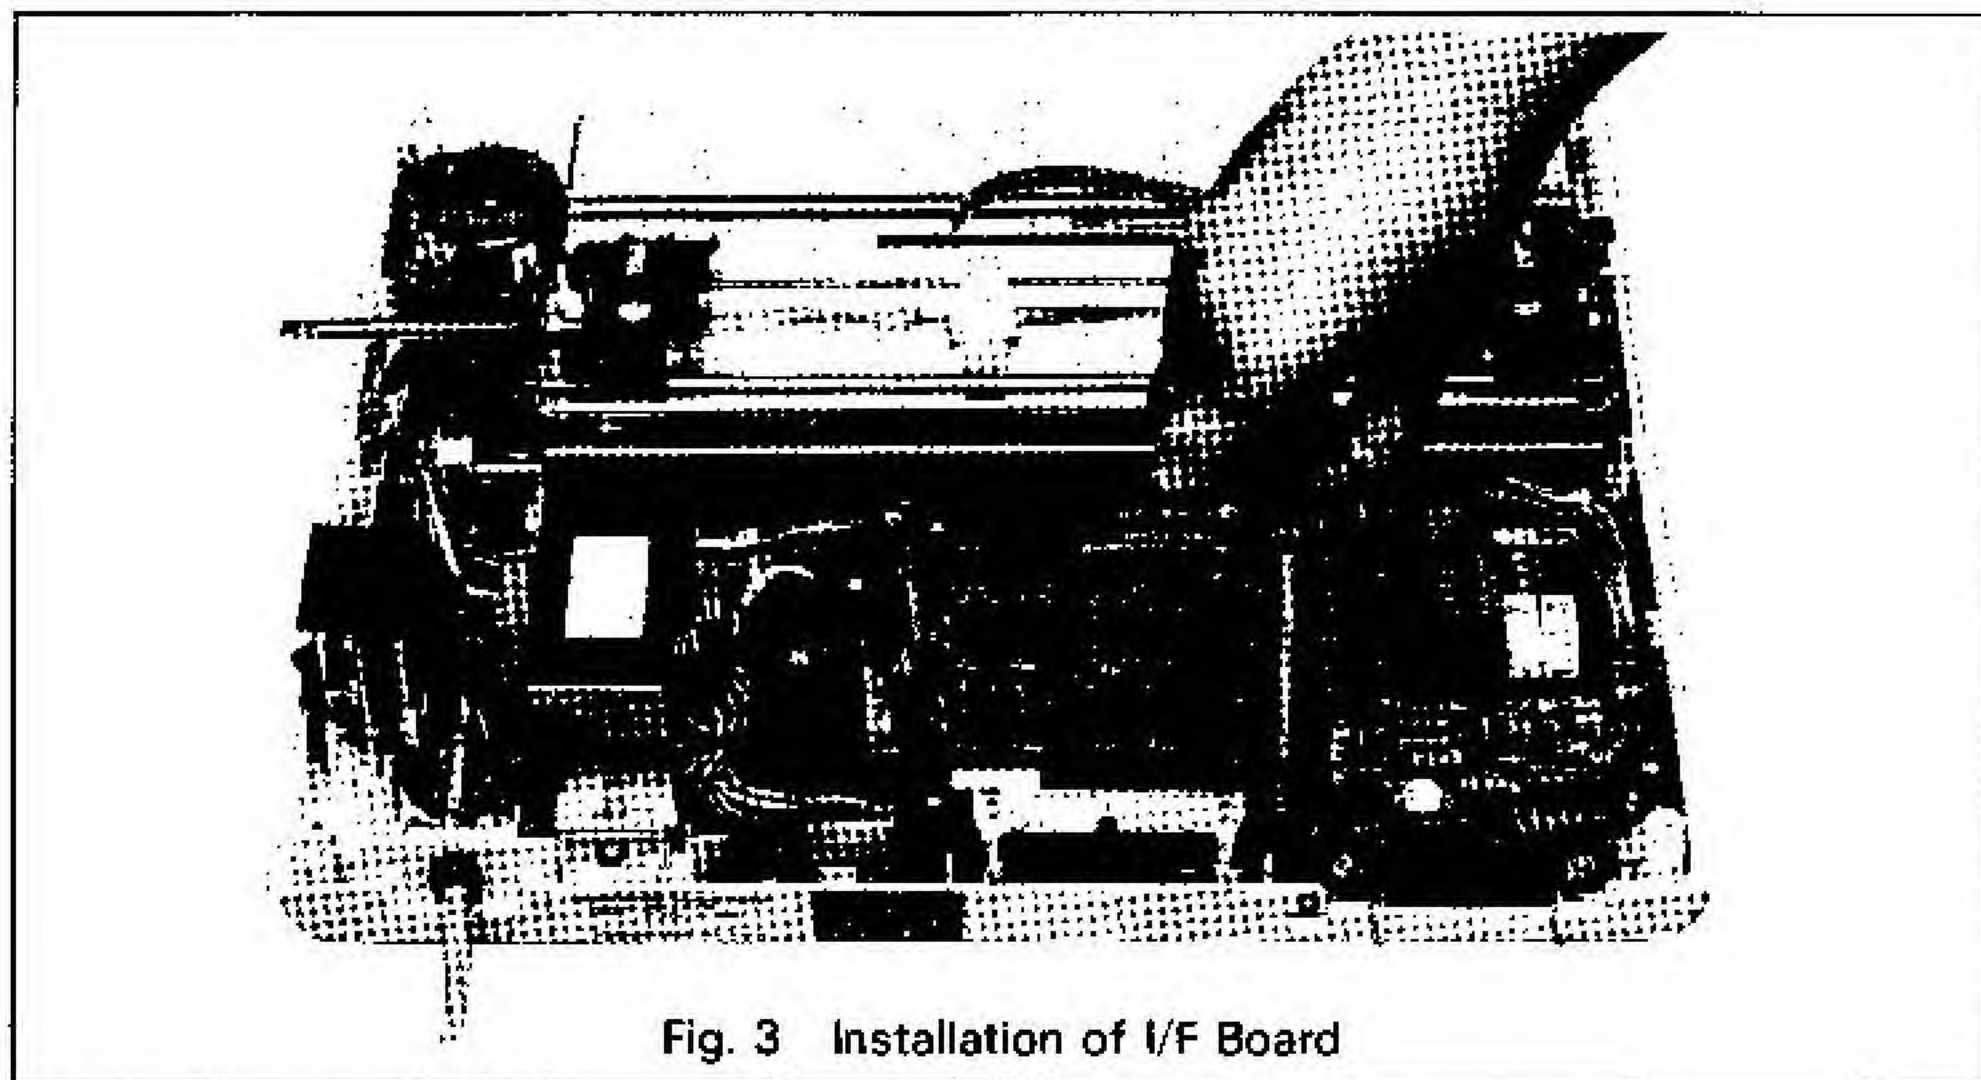

Fig. 3 Installation of I/F Board
STEP 3. Plug the I/F board connector into the connector on the control circuit board of the Printer as shown in Fig. 3.